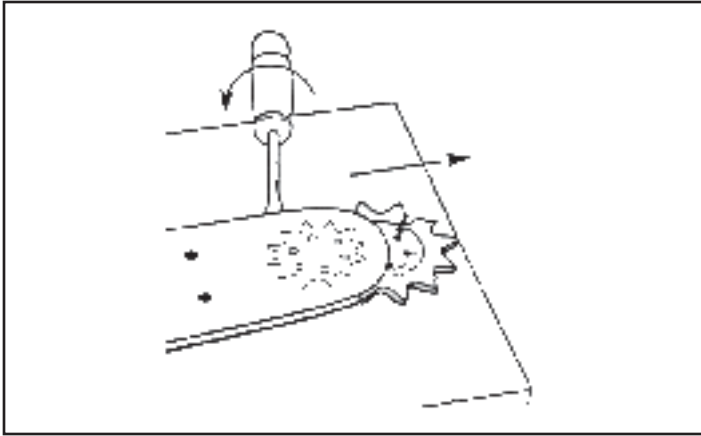

Figure 25. Removing Old Nose Sprocket
2. Insert a straight blade screw driver to spread the bar nose rails just enough to remove the old nose sprocket. Use a rag or paper towel to clean the nose sprocket area. See Figure 25.